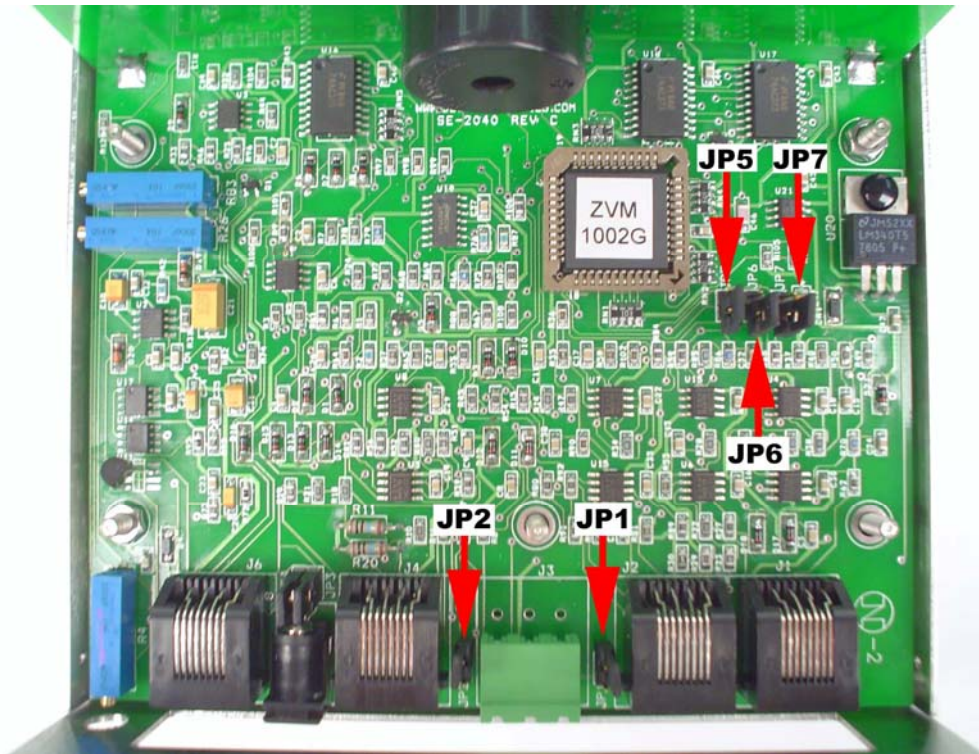

Figure 4. Jumpers JP1, JP2, JP5, JP6, JP7
- II. Remove jumper JP5 (See Figure 4) to enable the Audible Adjust Potentiometer located at the rear of unit, or add the jumper to disable it (maximum volume).
- II. Remove jumper JP6 (See Figure 4) to enable the Charge LED located on the front of the unit, or add the jumper to disable the Charge LED.
- II. Remove jumper JP7 (See Figure 4) to disable the Charge Data Output for data collection, or add the jumper to enable the Data Output.